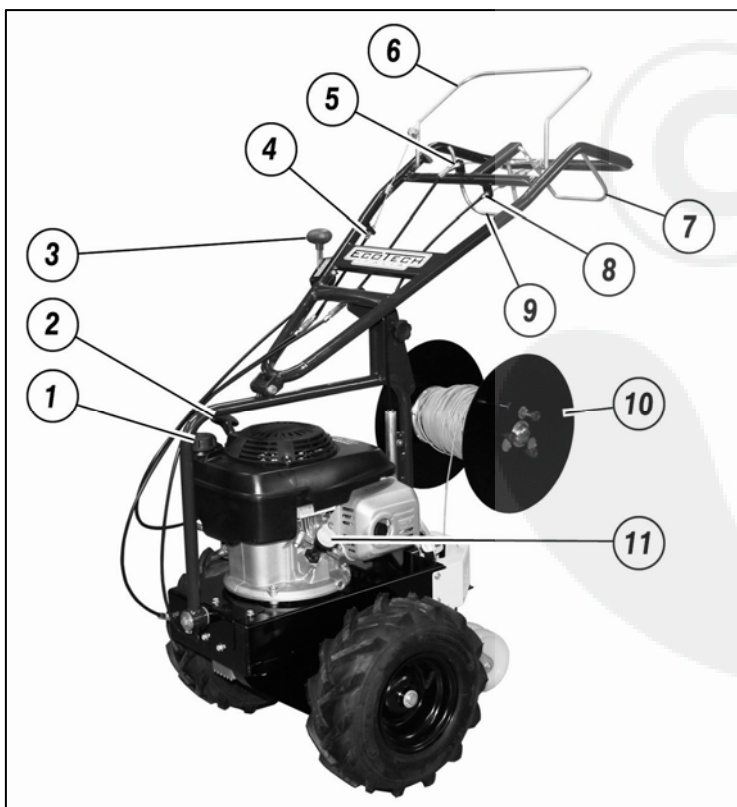
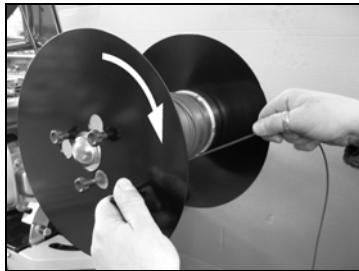
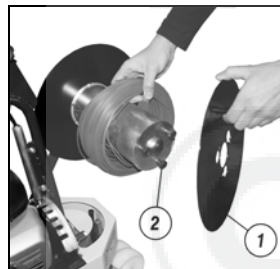

Fig.1
Fig.2
Fig.3
- Make sure that the oil level is not below minimum: Unscrew the cap (fig.1 no.11), use a rag to clean the dip stick and screw the cap back on. Unscrew the cap again and check whether the oil level falls within the minimum and maximum levels indicated. If the oil level is below minimum, add more oil until a suitable level is reached. (ask a trusted supplier for a suitable oil typology).
- Make sure that all of the levers are in their neutral positions (fig.1 no.6/no.9).
- If the motor is cold, the gas throttle (fig.1 no.3) must be set to its START position.
- Pull the motor's starter handle (fig.1 no.2) with force. Before using the machine, wait for a few minutes in order to allow the motor to reach its proper operating temperature.
Before initiating any work activities, position the cable upon the spool, adjust the machine's cable laying depth and tie the loose end of the cable to a peg. Make sure that there are no people, animals or foreign objects within 15 metres of the machine. Start the motor and wait for it to reach its proper operating temperature before beginning. Bring the cutter activation lever (fig.1 no.9) and the advancement activation lever (fig.1 no.1) to their working positions and begin working. Use maximum caution while operating the machine. Be sure to carefully read the operation descriptions provided below. During the summer, or whenever operating upon dry terrain, it is recommended to water the operating area abundantly the day before the work is to be performed.
**THE MACHINE MUST BE SUBJECTED TO A TRAIL STAGE! THE BELTS WILL ADJUST DURING THE FIRST HOUR OF WORK. MAKE SURE THAT THE TENSION ADJUSTMENT SPRINGS ARE ALWAYS WORKING PROPERLY (fig.1 no.4/no.5).**
Given the various cable and spool typologies which are available on the market, it is recommended that the cable be wound upon the supplied cable spool (fig.1 no.10), using the appropriate handle upon the spool itself. This will facilitate the cable loading operations. In order to guarantee proper unwinding (fig.2), it is important that the cable be wound upon the spool in a clockwise direction. If the user should want to use a spool with cable already wound upon it, the left hand side of the supplied cable spool can be removed by loosening the three knobs (fig.3) and by slightly turning the side of the spool itself. Position the new spool over the supplied spool's central cylinder, using any adaptors as required, and reattach the side which was previously removed. Be sure to tighten the fastening knobs properly. Once the cable has been properly positioned upon the spool, the loose end of the cable must be inserted into the appropriate tube (fig.4) until a few centimetres of cable come out the bottom.